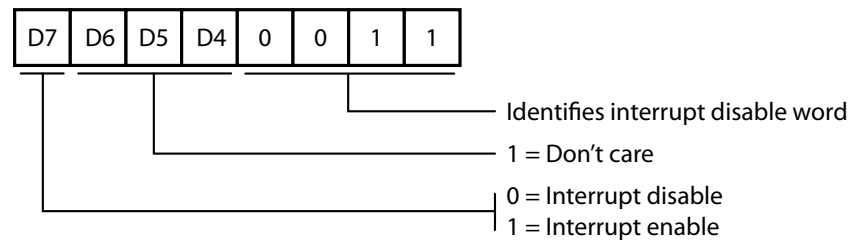

Figure 15. PIO Interrupt Disable Word
**Interrupt Disable Word.** When bits B3 to B0 are loaded with 0011, the command register functions as the Interrupt Disable Word Register. This word can be used to enable or disable a port's interrupts without change the remainder of the port's interrupt conditions. See Figure 15.